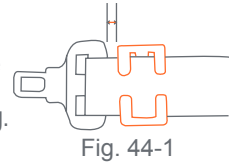

Fig. 44-1
- Secure the shoulder belt to the lap belt by installing the locking clip 1/2 inch from the buckle as shown in (Fig. 44-1).